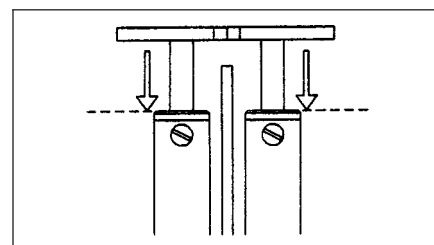

Figure 1 Install Tip
2. Install BGA removal tip and vacuum cup into dual handpiece. (See Figures 1 & 2.)